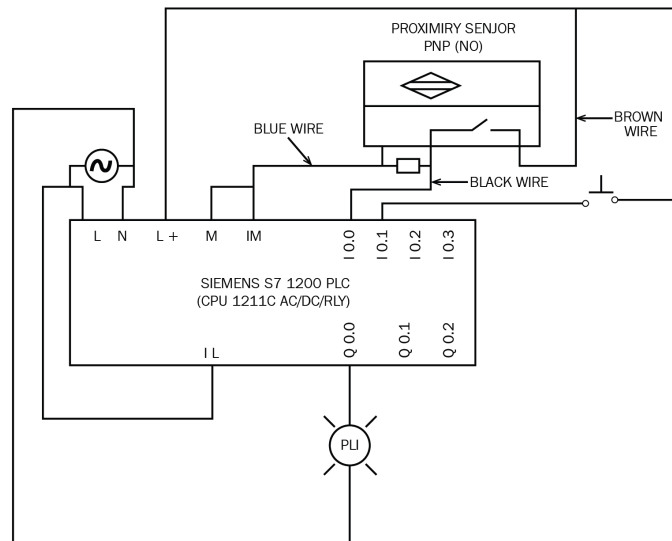
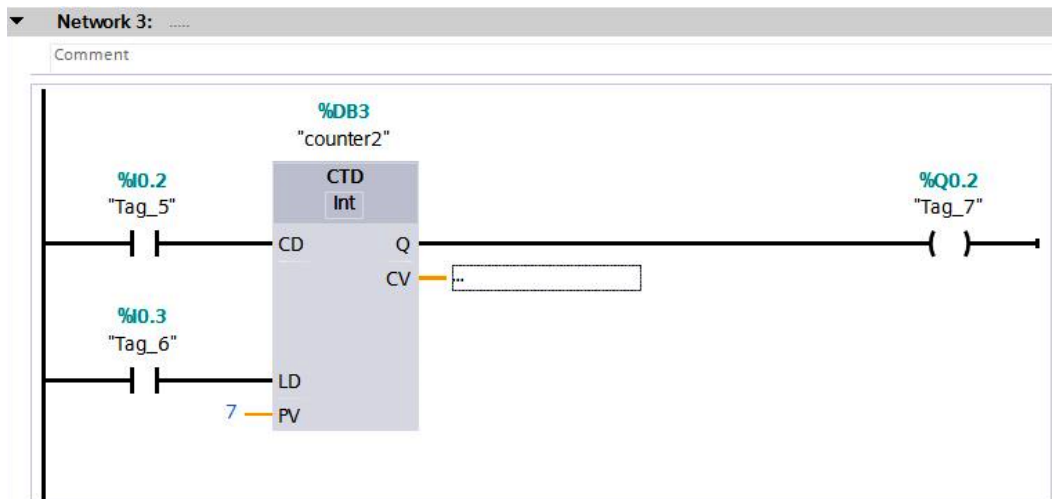

Figure 9.41 – PLC wiring for using the counter instruction with a proximity sensor
Figure 9.45 – Using the countdown counter
From the wiring diagram in figure 9.41, when the proximity sensor detects an object, I0.0 will be high (ON). It will be low (OFF) when the object is no longer detected.
Also, add a load (output) to channel Q0.1 in the wiring in *Figure 9.41* to demonstrate the program.
Add a load (output) to channel Q0.2, add a push button to channel I0.2, and another push button to channel I0.3 in the wiring in *Figure 9.41* to demonstrate the succeeding program (*Figure 9.45*). I0.2 is used for the trigger input, while I0.3 is used for LD (load) input. Q0.2 is used as the output.